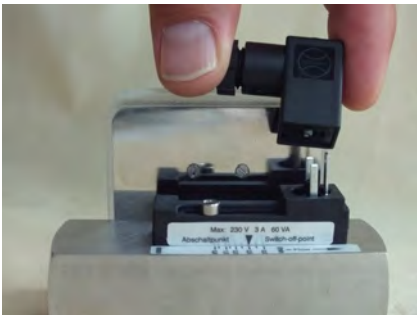

Fig. 68: Remove female socket
2. ➤ Remove the female socket and gasket (Fig. 68) by pulling upwards.